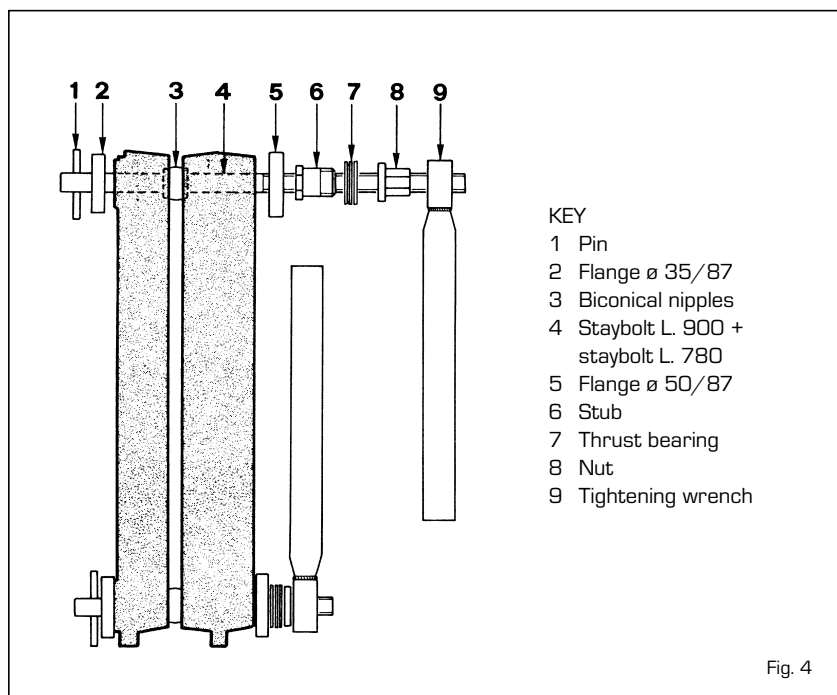

Fig. 4
- assemble the sections, using the tools provided consisting of a pair of staybolts for assembly with the corresponding accessories (code 6050900 - fig. 4), exerting pressure simultaneously on the top hub and on the bottom hub. If, during this operation, the sections were to slot together in such a way as not to be even and parallel, slide a chisel in the tighter side and, by applying a little force, bring the two pieces together so that they are parallel. The sections can be considered properly joined together when their outer edges come into contact;